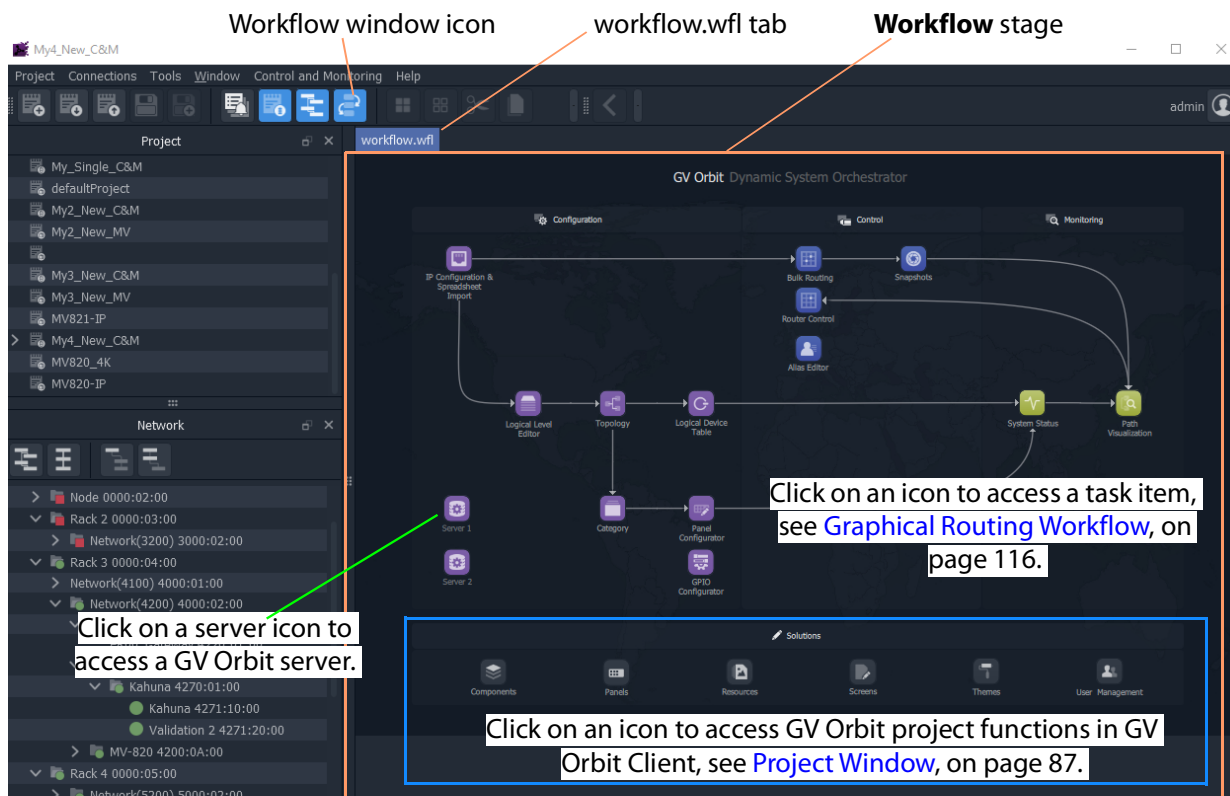

Fig. 3-7: Graphical Routing Workflow Stage
- The workflow in Figure 3-7 is available to all new projects.